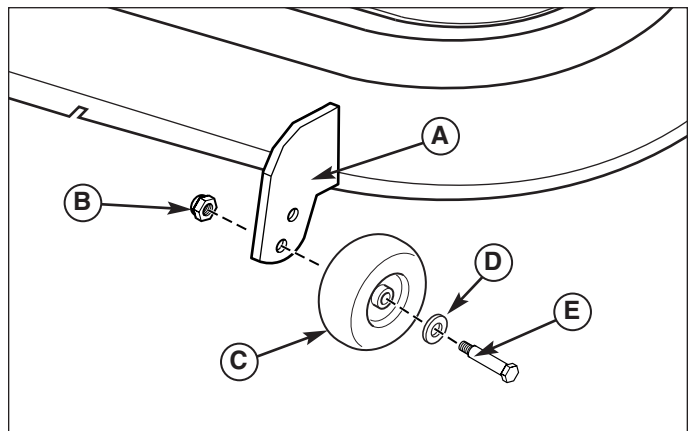

Figure 38. Fixed Bracket Gauge Wheel Adjustment
1. Remove the locknut (B, Figure 38), gauge wheel (C), washers (D), and shoulder bolt (E). Change position of gauge wheel to desired height.
2. Insert shoulder bolt (E) through washers (D) gauge wheel (C), and gauge wheel bracket (A). Secure with locknut (B). Repeat Steps 1 & 2 for all gauge wheels.